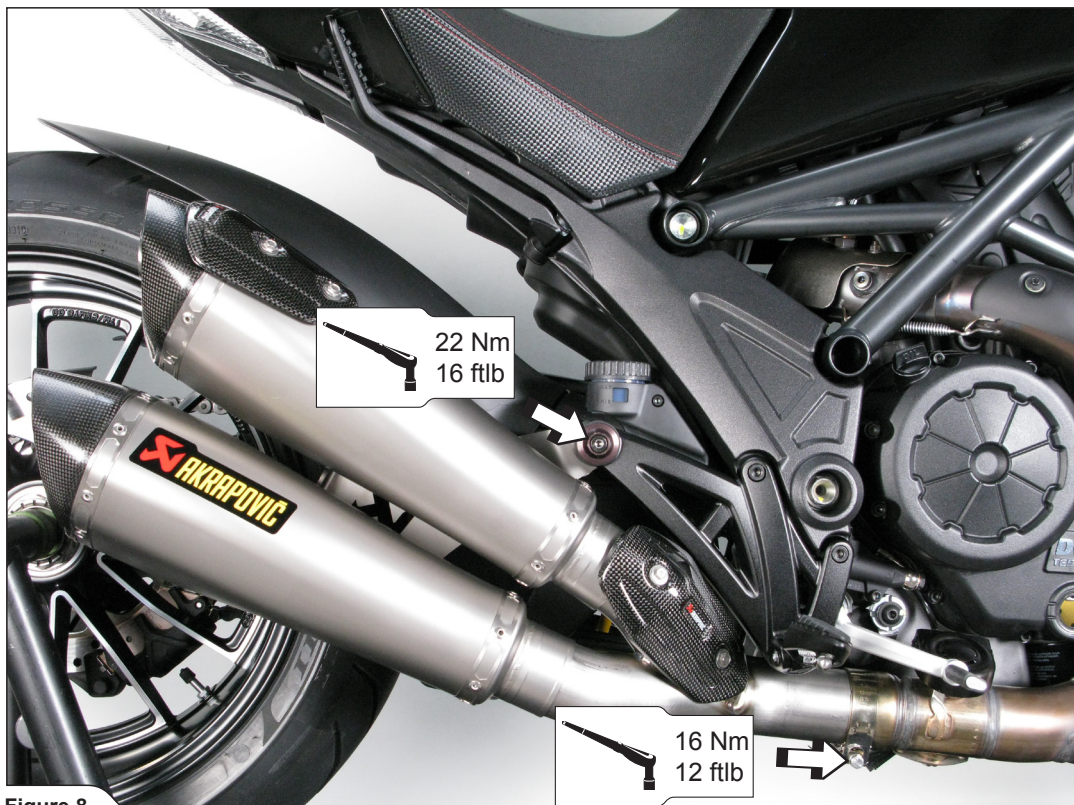

Figure 8
5. Slide the assembled mufflers onto the outlet of the original collector. Align the mufflers in respect to the motorcycle and tighten the mufflers' bracket using original bolt, aluminium washer and nut. Tighten the original clamp at the Akrapovič link pipe-collector connection (**Figure 8**).